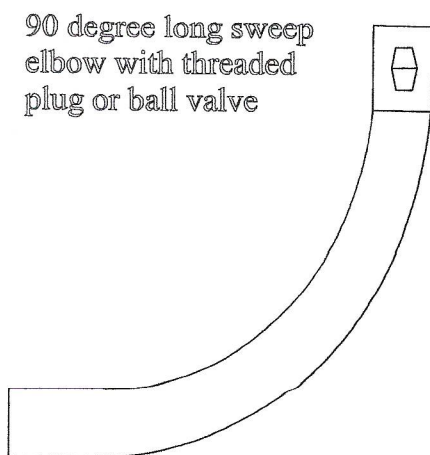

Figure 6
12. At the end of the lateral, place a 90-degree long sweep with a capped piece of pipe pointing up through the soil surface. Cover the capped pipe with a valve box and lid of an adequate size. The cover of the valve box shall be located above the final grade of the mound (Figure 6).